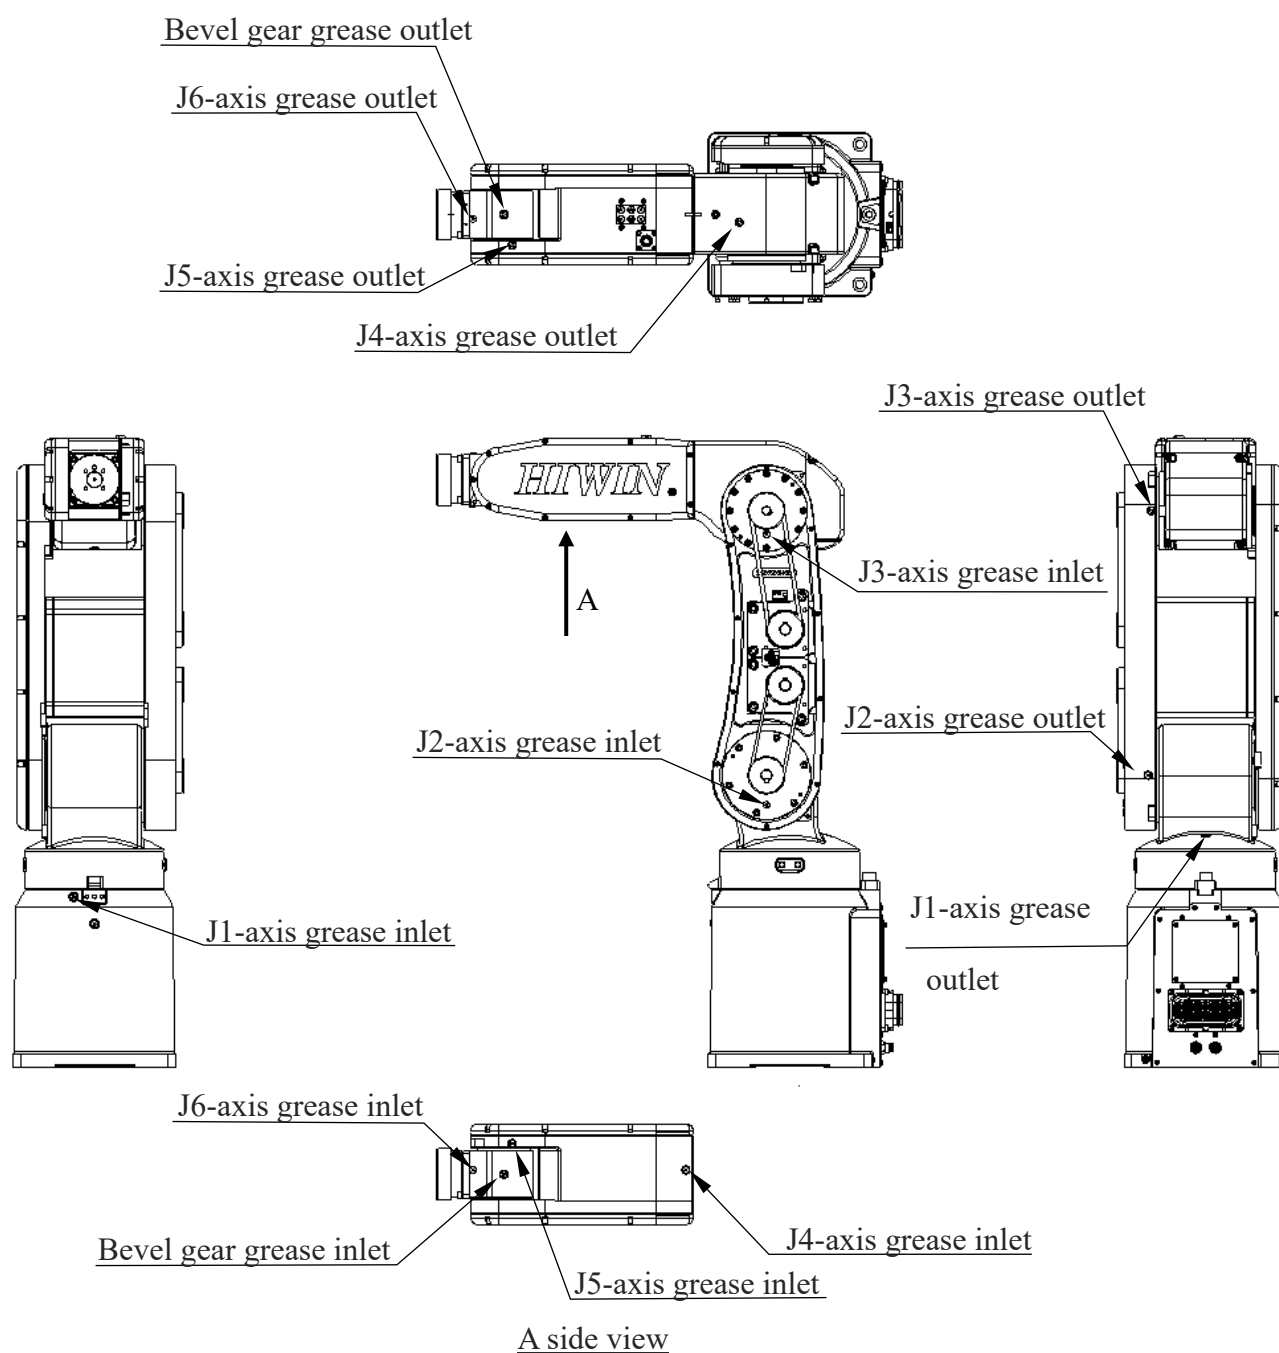

Figure 6-8 Lubrication and air inlet/outlet positions
- ⊙ The grease inlets and outlet are shown in Figure 6-8.